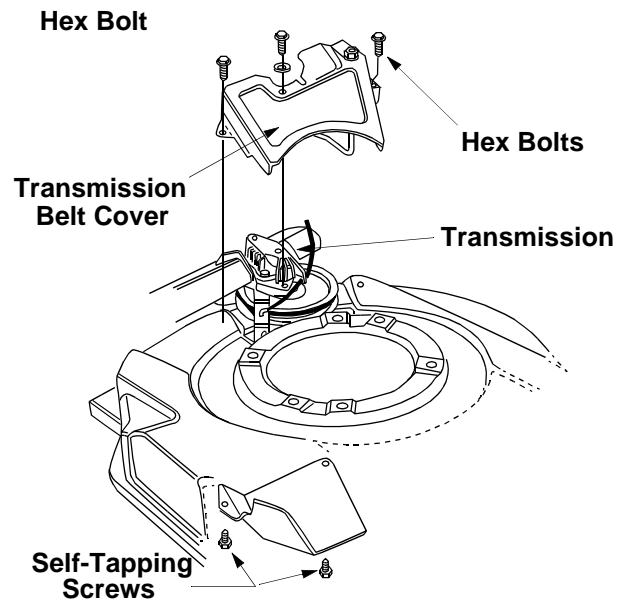

Figure 16
2. Remove the transmission belt cover by removing the three bolts. See Figure 16.